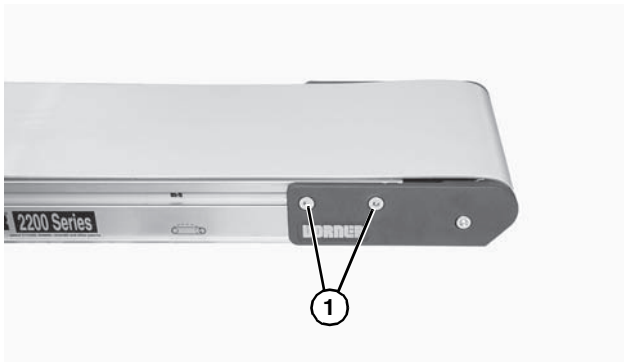

Figure 33
1. On one side of the conveyor, loosen two (2) head plate fastening screws (Figure 33, item 1) and remove.